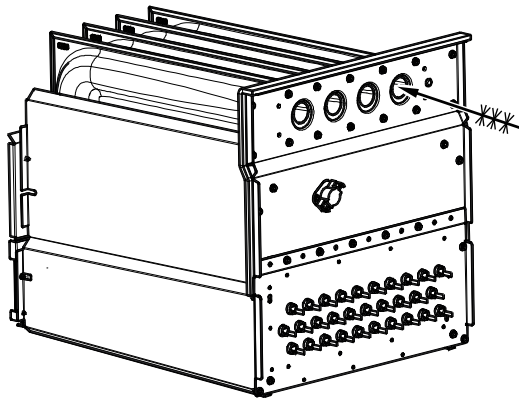

Fig. 69 – Cleaning Heat Exchanger Cell
7. Clean heat exchanger openings with a vacuum and a soft brush. See Fig. 69.
8. Reverse items 6 through 1 for reassembly.